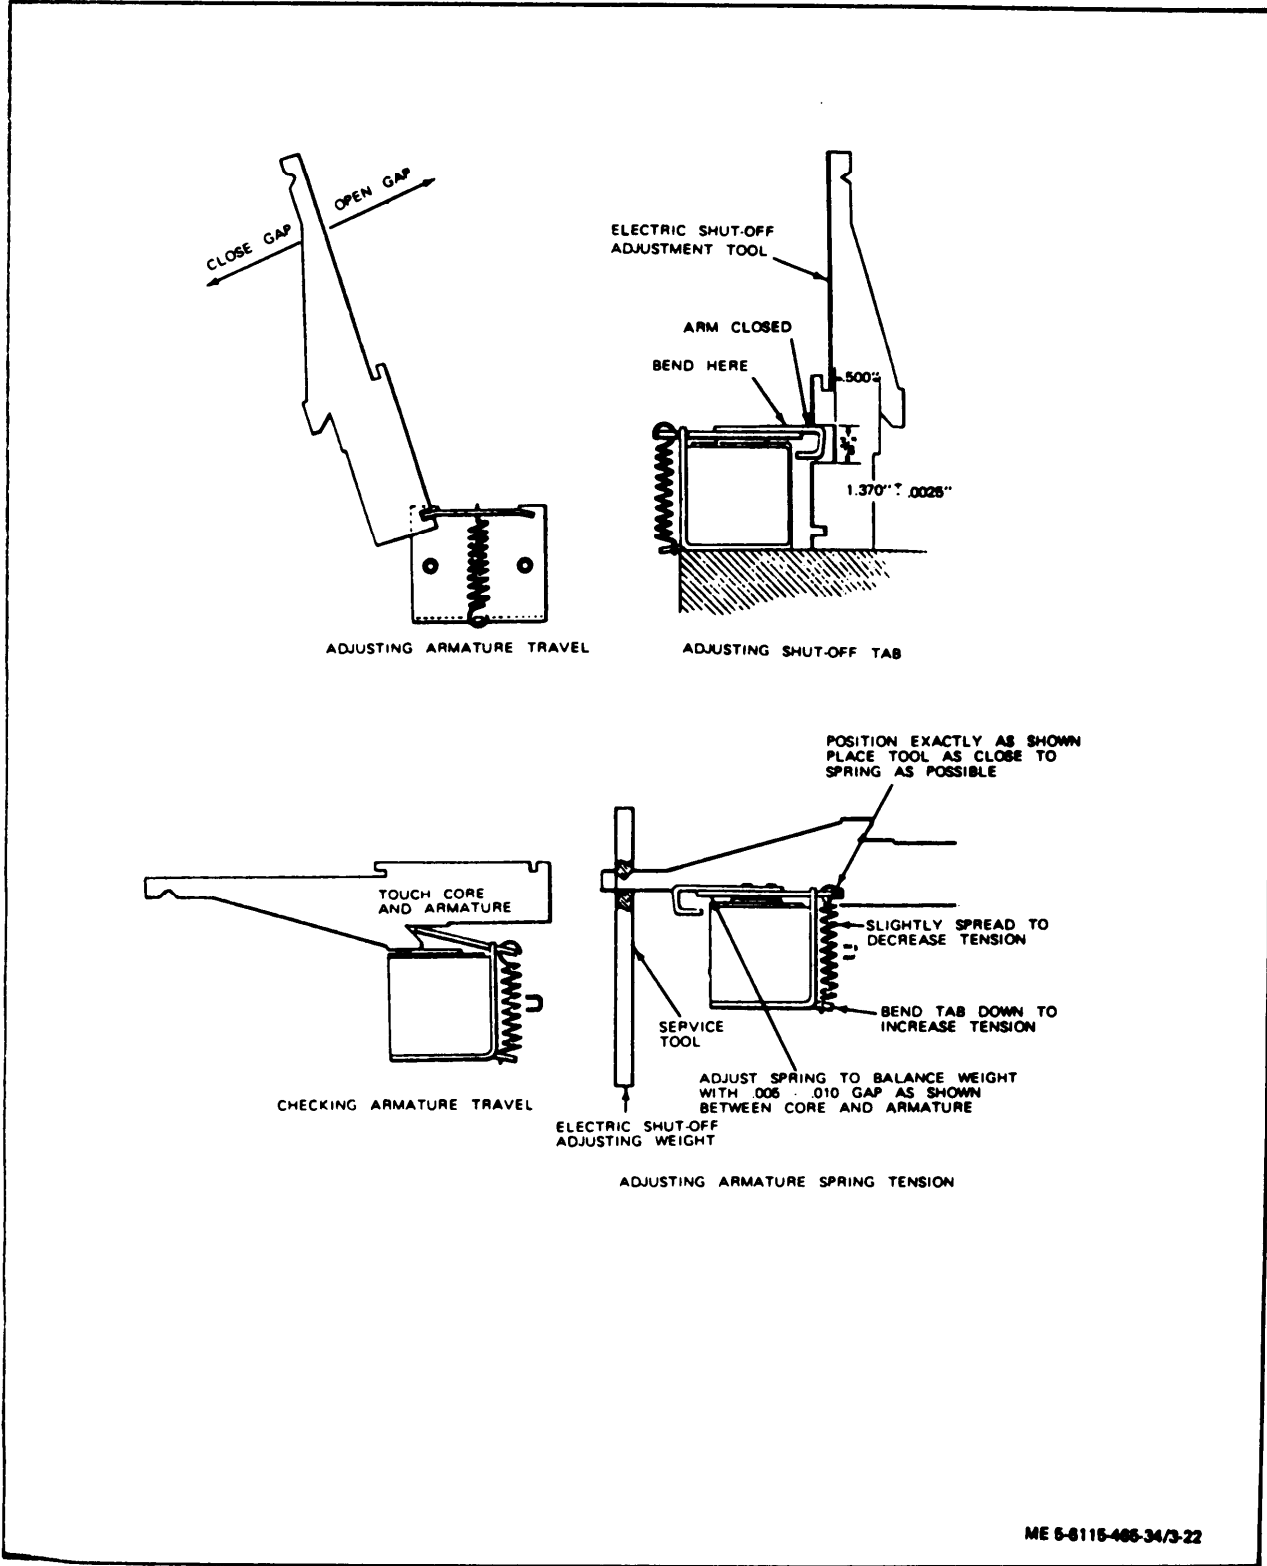

Figure 3-22. Solenoid Armature Adjustments
(49) Adjust armature as illustrated in figure 3-22.